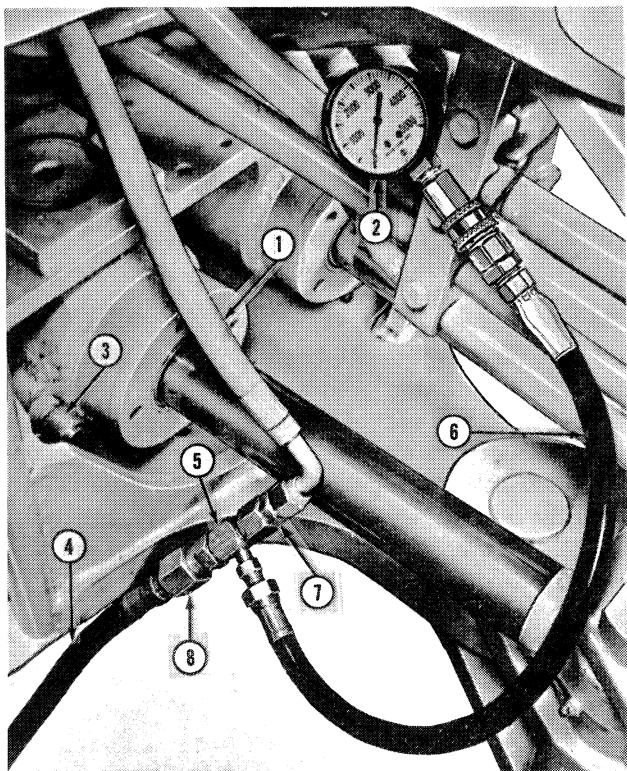
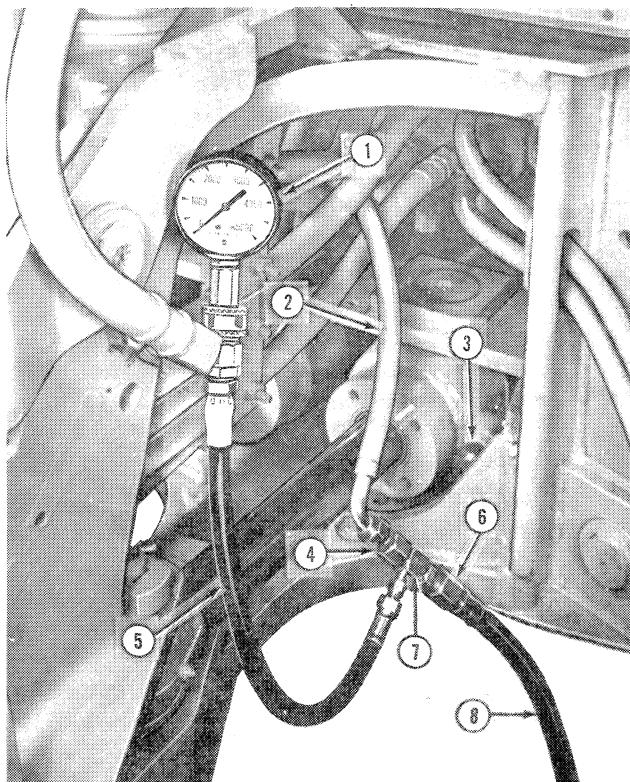

Figure 22
Figure 23
Refer to Figure 22. Warm the hydraulic oil to 165° F. (73.8° C.) by operating the backhoe for approximately 15 minutes before installing the test fittings.
3. Disconnect the right swing cylinder hose (1), Figure 22, from the swing cylinder port. Install the double male fitting (7), Tool No. 6729, in the swing cylinder hose. Install the CR11 fitting (8) on the end of the N1100-HS hose (4). Connect the N1100-W fitting (5) to the CR11 fitting and attach to the 6729 fitting on the swing cylinder hose, as shown. Install a cap (3) on the swing cylinder tube.
7. Disconnect the test equipment at the right swing cylinder and attach the swing cylinder hose (1) to the swing cylinder.
8. Connect the equipment to the left swing cylinder hose (2) as shown in Figure 23, in the same manner as for the right swing cylinder, and repeat Steps 4 and 5.